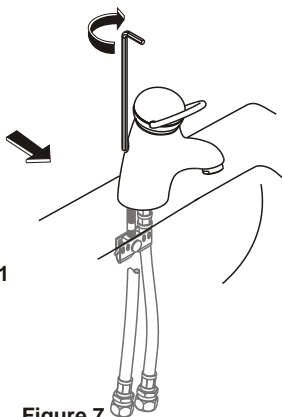

Figure 7
- Once tightened, position the vertical pop-up rod through the same vertical hole and connect this to the horizontal rod using the connector provided. (Figures 7 & 8)